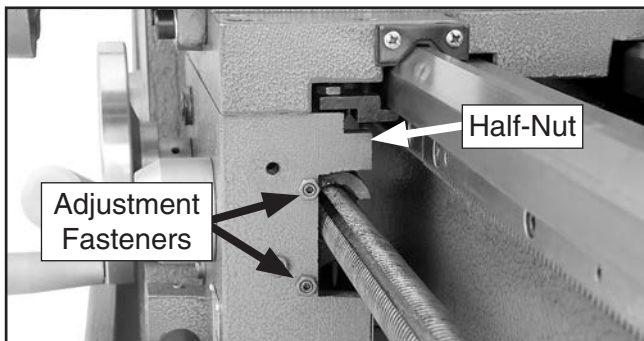

Figure 91. Typical half nut gib adjustment.
3. Loosen the two adjustment hex nuts shown in **Figure 91**, then adjust the set screws in small, even increments so one end of the gib does not become tighter than the other.